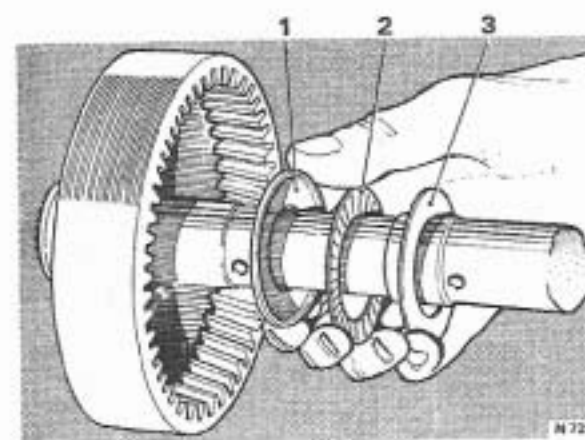

FIG. T274 FITTING RACES AND THRUST BEARINGS TO INNER FACE OF REAR INTERNAL GEAR
7. Fit a bronze and a steel thrust washer on each side of the pinion gear with the steel washer next to the gear (see exploded view in Fig. T274). Hold the washers in place with a smear of petroleum jelly.